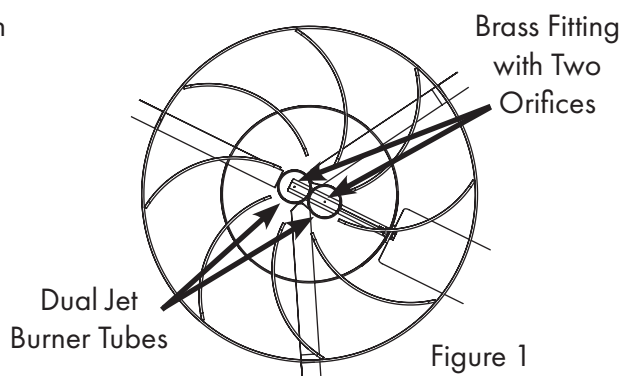

Figure 1
4. Always check the dual jet burner tubes for any obstructions such as insects or insect nests in the burner. (Figure 1)